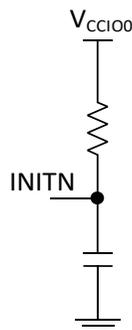

Figure 6.1. RC Delay
- Add RC delay to INITN as shown in Figure 6.1.